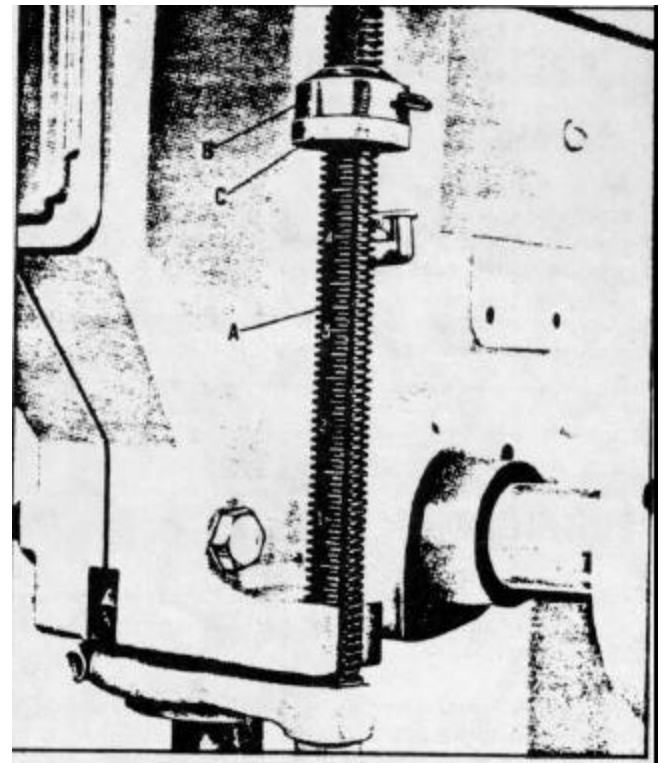

Fig. 9
When drilling one or two holes to a predetermined depth, the graduations on the face of the depth stop rod (A) Fig. 9, can be used.
1. Raise the locking sleeve (B) Fig. 9, and turn the micro-nut (C) to the desired position on the stop rod (A).
2. Lower the locking sleeve (B) so it will engage micro-nut (C) Fig. 9. Lock sleeve (B) in place with thumb screw if drill press head is mounted in other than vertical position. When the drill press is mounted with the chuck pointing "up", the locking sleeve (B) and micro-nut (C) Fig. 9, should be reversed on the stop rod (A).
3. When locking sleeve (B) is in place on the micro-nut (C) Fig. 9, the micro-nut can not be turned. When a change in depth is required, the locking sleeve (B) must be raised, and while it is raised, turn the micro-nut (C) the necessary graduation marks. Each mark represents .002". Then lower the locking sleeve (B).